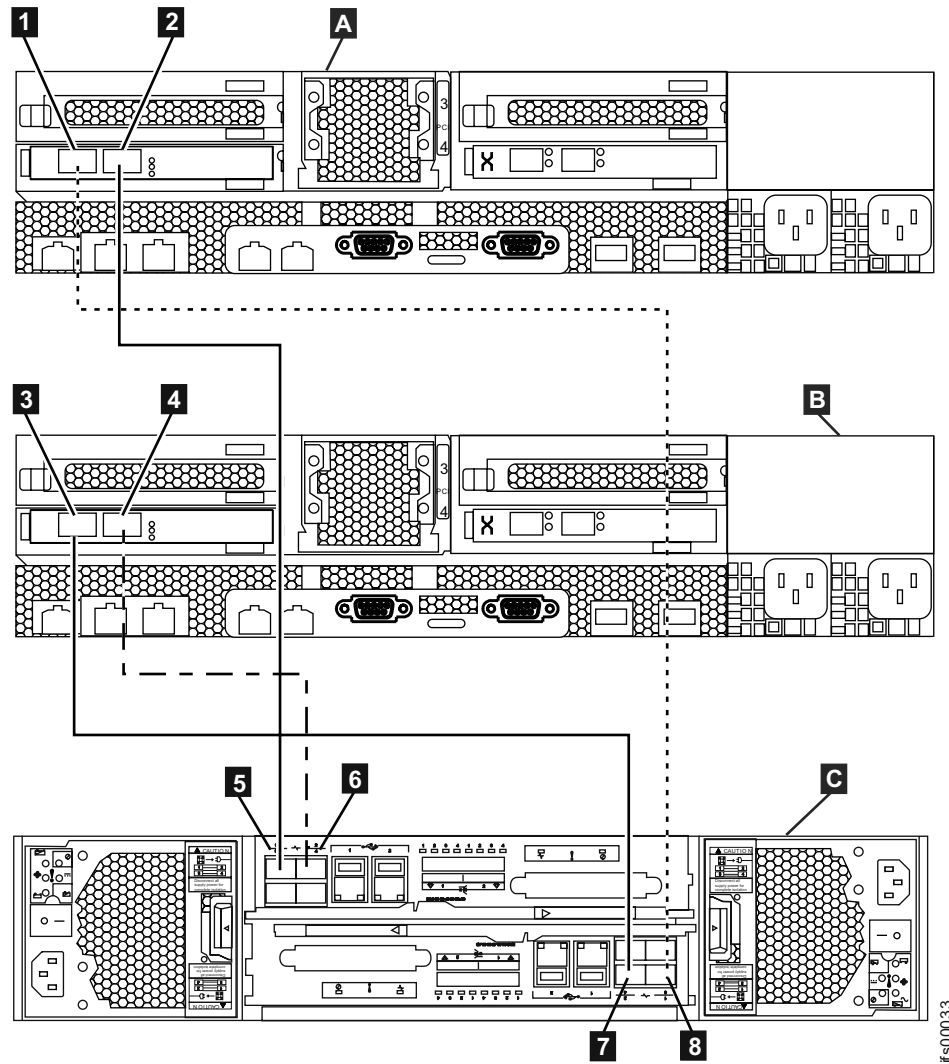

Figure 38. Diagram showing how to connect the file modules to the control enclosure using Fibre Channel cables. Refer to previous table.
- Before continuing, make sure that you have connected the Fibre Channel cabling as shown in Figure 38 on page 37 to ensure proper redundancy. Incorrect cabling may result in a loss of service during system maintenance procedures.